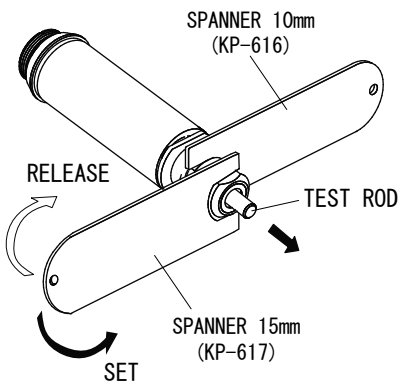

Fig.2
- 1) Hold the motor and turn the collet release ring to the "RELEASE" direction as shown Fig.2. (Collet chuck is in the open position)
- 1) Take out the SENTAN tool by turning lock nut the "RELEASE" direction as shown Fig.2.